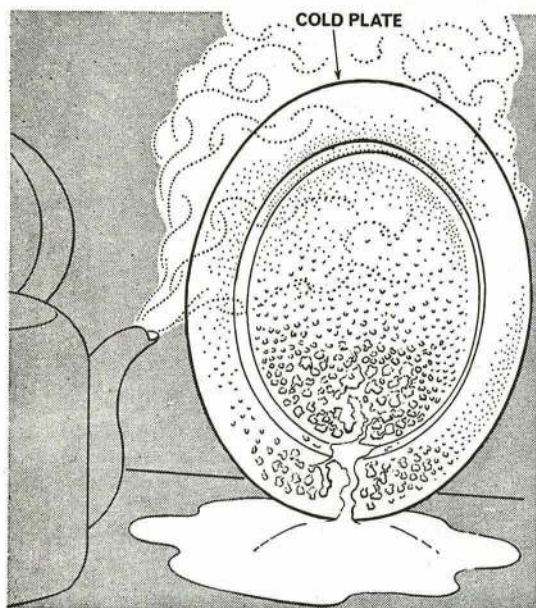

Fig. 4. CONDENSATION
12. **Condensation** is the process of forming a liquid from its vapour (Fig. 4). If superheated vapour is cooled gradually, as soon as the vapour cools to the temperature at which boiling took place then liquid will start to form and the temperature will remain constant until all the vapour has condensed back into liquid form. All the heat that was used to change the liquid into vapour (latent heat) has to be removed again to change the vapour back to liquid.